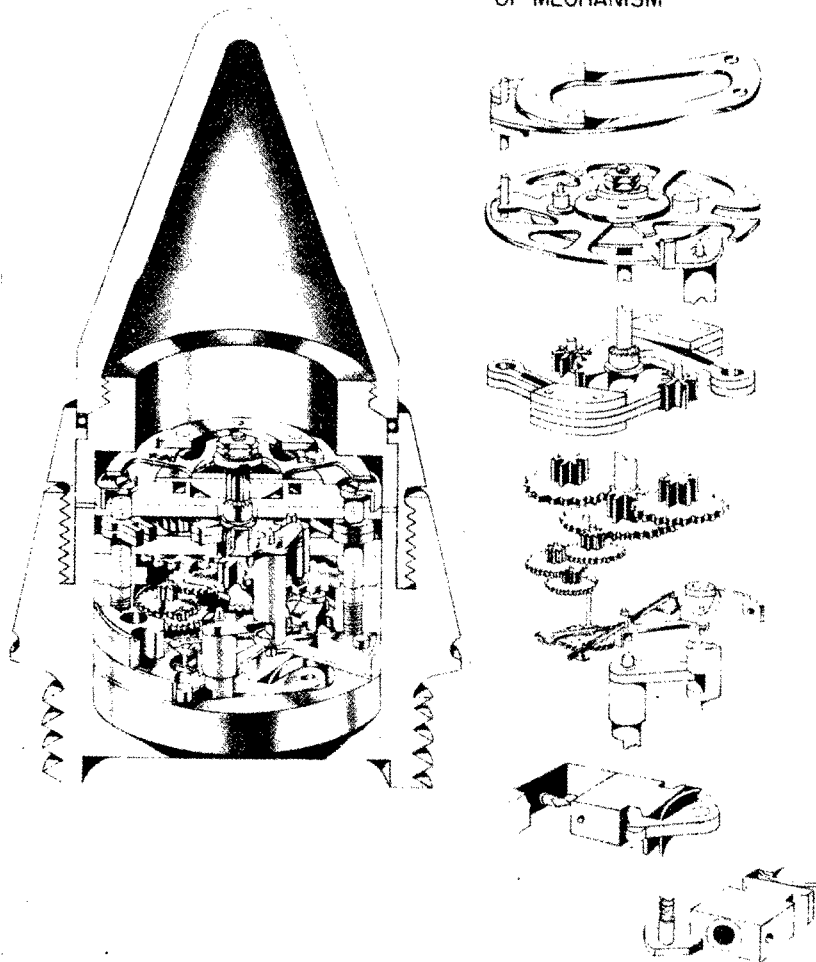

Figure 594—Zt. Z. S/30 Fgl.
**EMPLOYMENT:** Mechanical Time Nose Fuze used in 8.8-cm and 10.5-cm H. E. antiaircraft shells. (See fig. 594.)